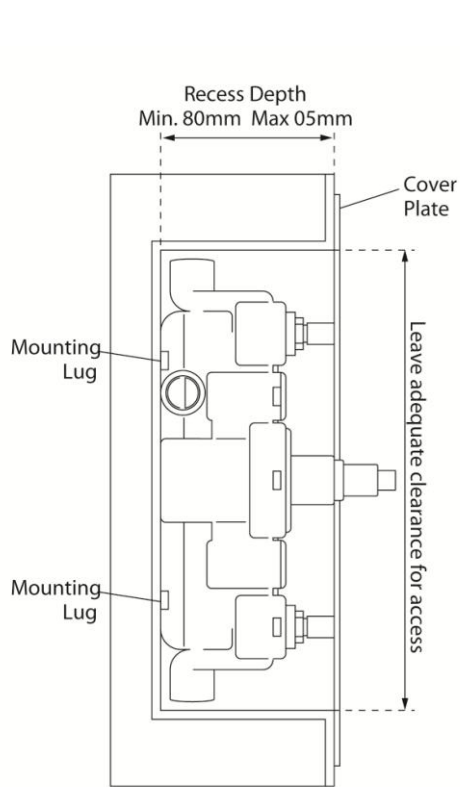

Fig. 1- Handle Removal
1. For ease of fitting remove the valves handles (Fig 1.) and retaining sleeves (Fig 2.)